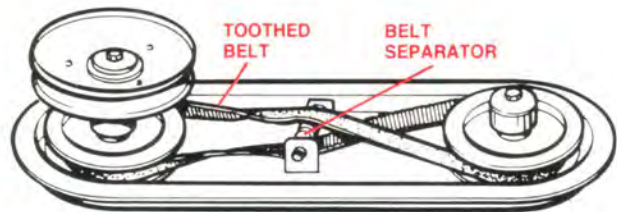

Figure 9. Toothed Belt Replacement.
- NOTE:** Take particular care to get the correct lay of the belt over the Belt Separator (See figure 9). Also ensure the blades are set at 90° to each other.